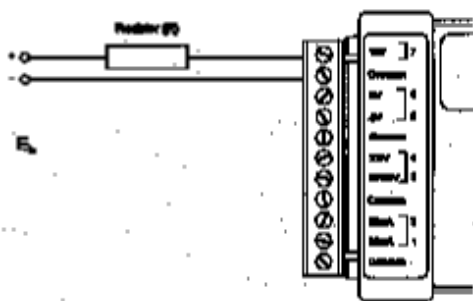

Figure 7-4: Extended Voltage Range on 10V Channel
The 10 volt channel can be modified to span higher ranges (greater than 10 volts DC) by adding a single resistor to the "10V" terminal shown in Figure 7-4. The value of the resistor R must be calculated by following formula based on the desired voltage input range (E_{in}):
The 5 volt and 2.5 volt channels can be modified to span higher ranges (greater than 5 and 2.5 volts DC respectively) by adding single resistor, in the same way as shown for a 10V channel in Figure 7-4 to the "5V" and "2.5V" terminals. The value of the *Resistor* (R) can be calculated by the following equations based on the desired voltage input range (E_{in}). Then a final *Range* can be determined to write an **Equation** for TrendReader for Windows.